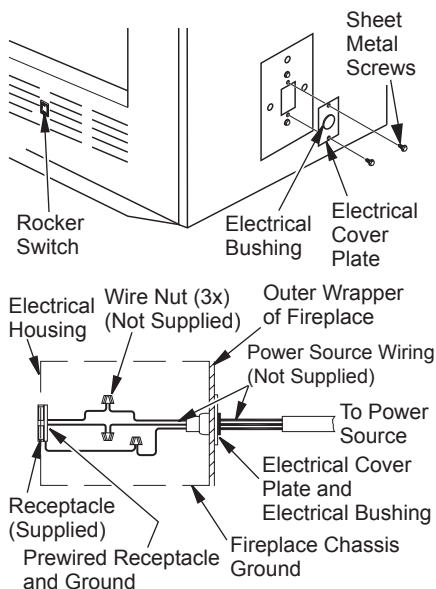

Figure 12 - Fan Switch-Electrical Bushing
1. Remove electrical cover plate with bushing from fireplace by removing 2 sheet metal screws as shown in Figure 12.
3. Slide all wiring connections in electrical housing as shown in Figure 12.